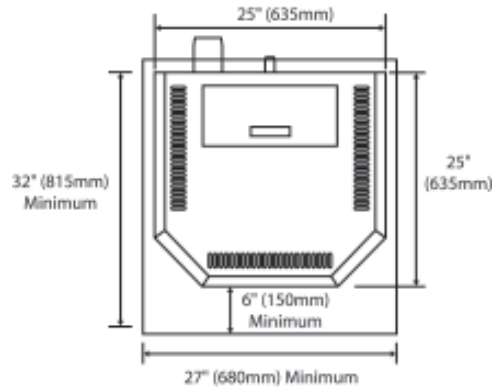

Figure 1. **KØZI** BayWin noncombustible floor protector (same dimensions apply to Model 100 and KSH Series).
6. This heater requires a floor protector beneath the heater and extending a minimum of 6 inches (150mm) in front of the heater. This is to catch any spillage, which may occur during opening and closing of the doors. See figure 1 for more information.